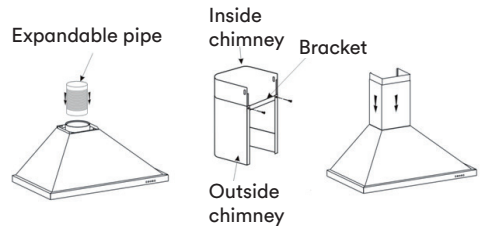

Figure 5
5. Fix the outside chimney bracket on the outside chimney, and be sure that the inside chimney can be adjusted the height in it freely as well as fixing the extensible pipe and chimney on the rangehood. (Figure 5)